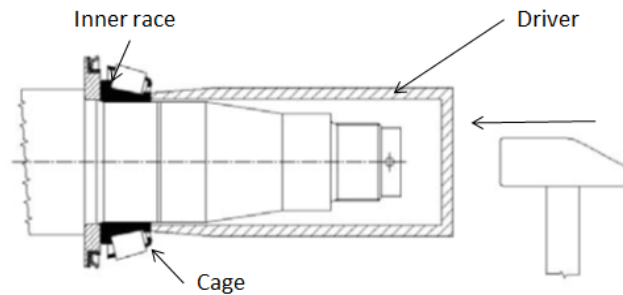

Figure 65 — Reassembling a Wheel Bearing
4. Put the inner race of the large bearing all the way onto the spindle. Be careful to avoid damaging the bearing cage. If needed, use a tool to put the inner race/rollers/cage assembly back on the spindle, as shown in Figure 65. The force must only be applied to the inner race, and never to the cage or rollers, which could damage the bearing.